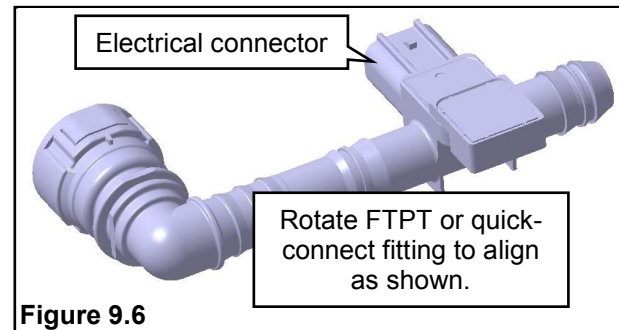

Figure 9.6
5. Rotate the quick-connect fitting of the vapor line so that the FTPT, in relation to the quick-connect fitting, is as shown. **Figure 9.6.**
Note: The FTPT electrical connector must be rotated so that it is horizontal when installed. Orient the FTPT with the quick-connect fitting until this is correct. Refer to **Figure 9.6** on page 9.